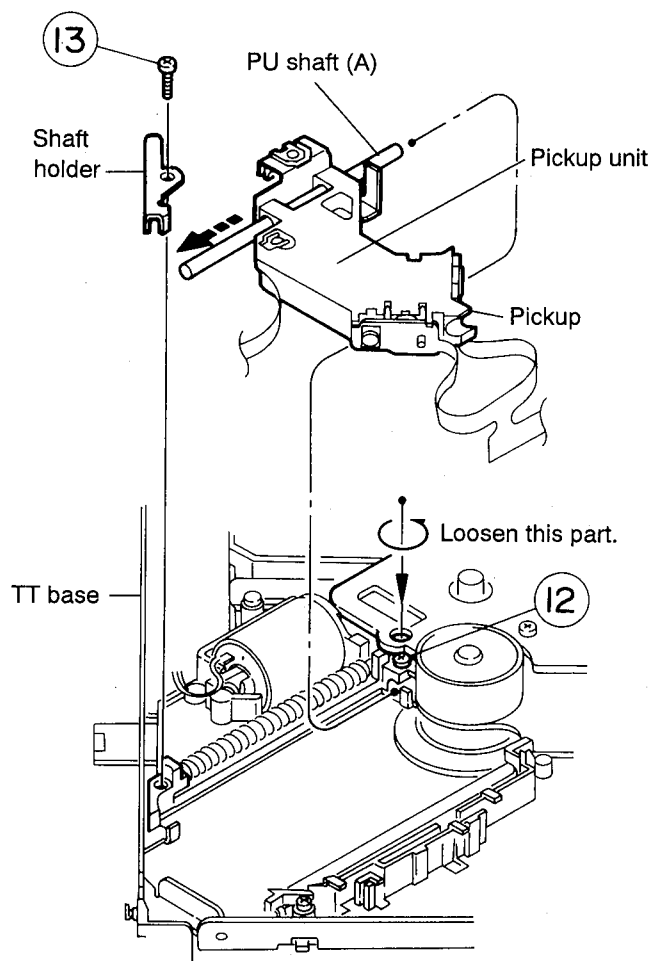

Fig. 4-22
1. By loosening the screw (12) retaining the pickup (PU) shaft (A), remove the screw (13) and dismount the shaft holder (See Figs. 4-22 and 4-23).
● Assembly of pickup unit (See Figs. 4-22 ~ 4-25)
3. Insert the PU shaft (A) to the pickup and press it fully to the end on the TT base side (See Fig. 4-22).
4. After attaching the shaft holder, tighten the loosened screw (12) (See Fig. 4-22).